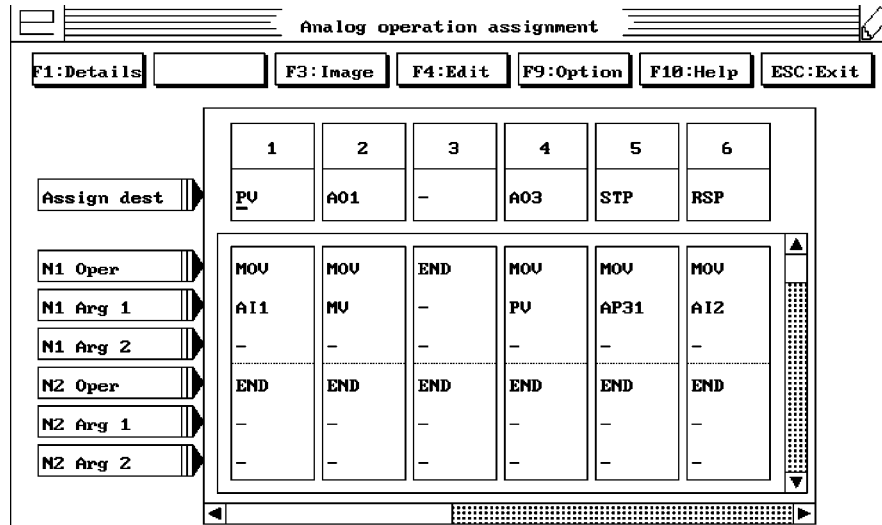

Figure 8
- Double-click on the **Analog oper** button. The Analog operations assignment menu will appear (Figure 8).